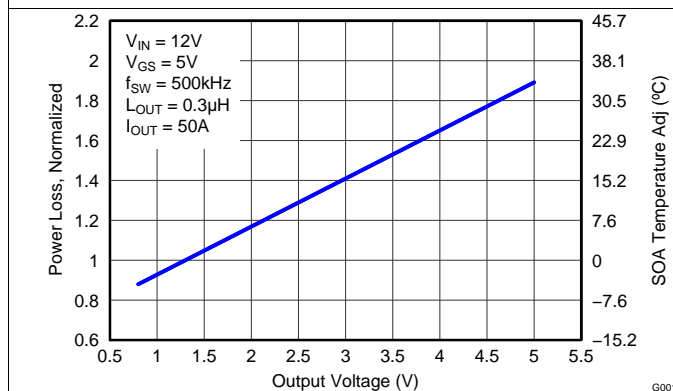

Figure 9. Normalized Power Loss vs Output Voltage
- Normalized power loss for output voltage ≈ 0.90 (Figure 9)
- SOA adjustment for output voltage ≈ -2.5°C (Figure 9)